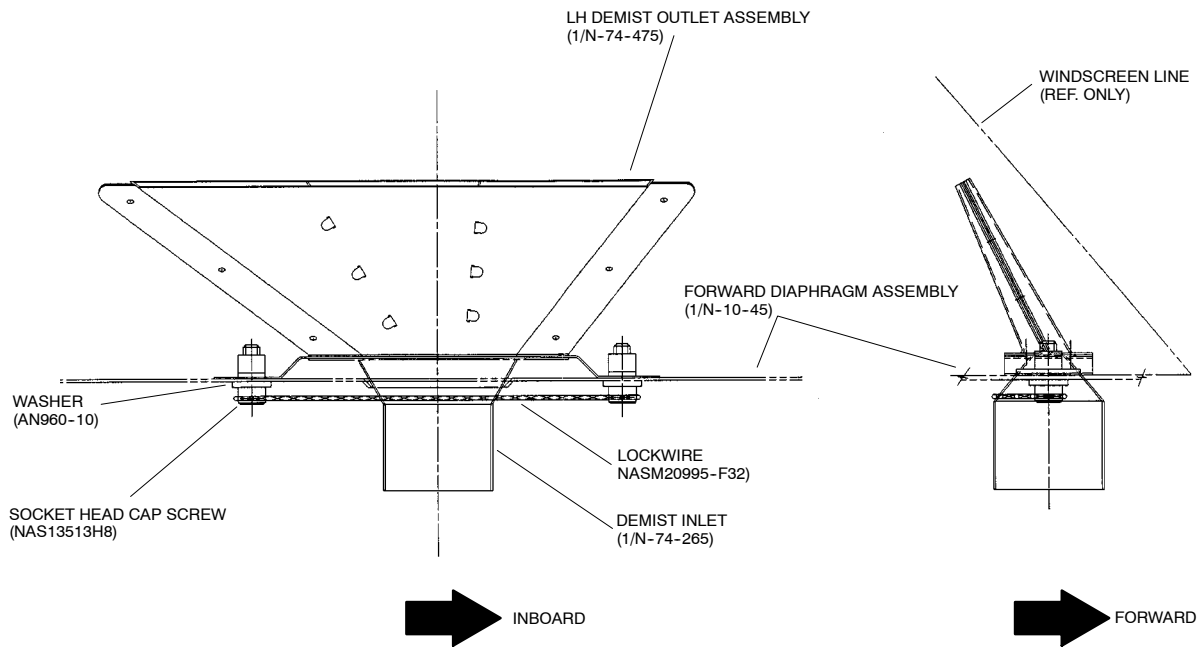

Figure 3 Mod N862 Demist Main Outlet installation
- (1) Drill four 2.50 mm (0.098 in) holes through existing pilot holes in each Demist Outlet Assembly (1/N-74-475/6) to match Demist Inlet (1/N-74-265). Wet assemble and seal all joints to ensure airtight connection using SILASTIC (RTV3145). Do not obstruct internal airflow passage. Rivet using (MS 20470AD3-4 or alternatives listed).
- (2) Locate Demist Outlet Assemblies (1/N-74-475/6) on the forward diaphragm, as shown in Figure 3, with line of outlet parallel to windscreen.